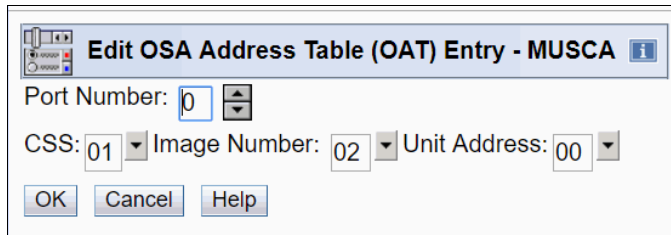

Figure 6-11 OSA/SF on the HMC: Edit SNA entry window
- Select **Edit as SNA Entry**, and the OSA Address Table (OAT) Entry window that is shown in Figure 6-11 opens. Select the correct SNA entry and click **OK**.